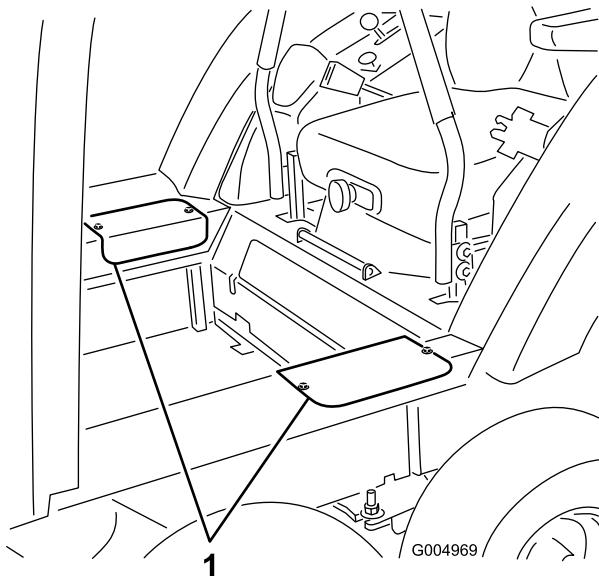

Figure 51
1. Washer & nut on the bogie pivot stud (2)
14. Remove the two screws securing each side access cover and remove the covers (Figure 51).